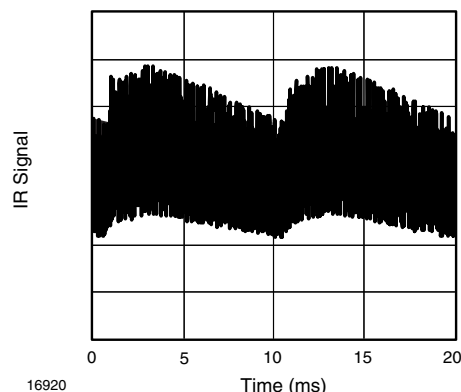

Fig. 13 - IR Disturbance from Fluorescent Lamp with Low Modulation
- Strongly or weakly modulated noise from fluorescent lamps with electronic ballasts (see Fig. 13 or Fig. 14)